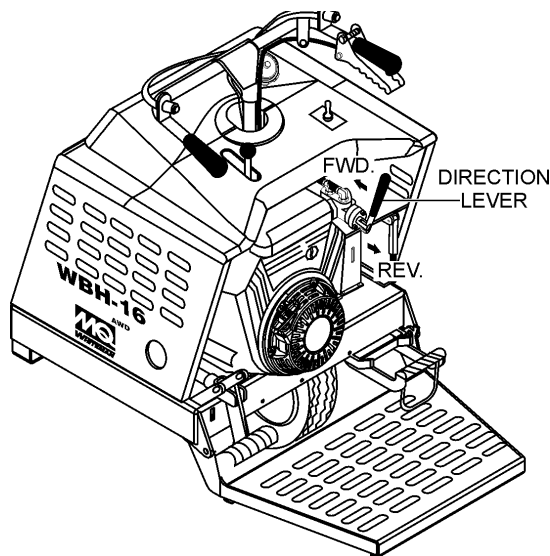

Figure 19. Direction Lever
4. Place the power buggy's direction lever (Figure 19) in the forward direction.
1. With the engine running and parking brake released, place the direction lever (Figure 19) in the forward direction.